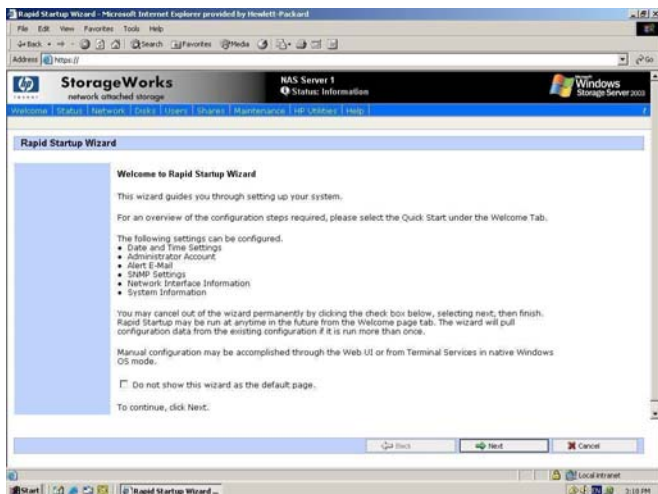

Figure 1 Rapid Startup wizard screen
4. Login to the WebUI. This launches the WebUI configuration application (Rapid Startup) on the target HP ProLiant Storage Server, as shown in Figure 1.
5. Open Internet Explorer to launch the WebUI configuration application (Rapid Startup) on the target storage server, as shown in Figure 1. If the WebUI does not launch, connect to the *LocalHost* and login to the WebUI.
Ensure that an Internet Explorer window is open and the WebUI is at the Rapid Startup Wizard, as shown in Figure 1.